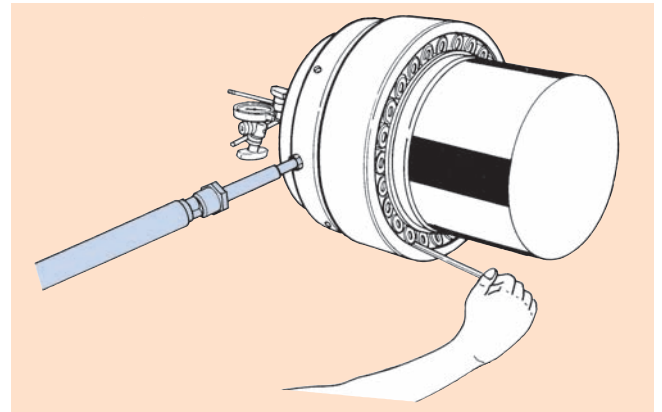

Fig. 32
(4) Measure the bearing radial internal clearance with a thickness gauge, and increase the hydraulic pump pressure until reaching the specified mounted clearance (see Fig. 32).